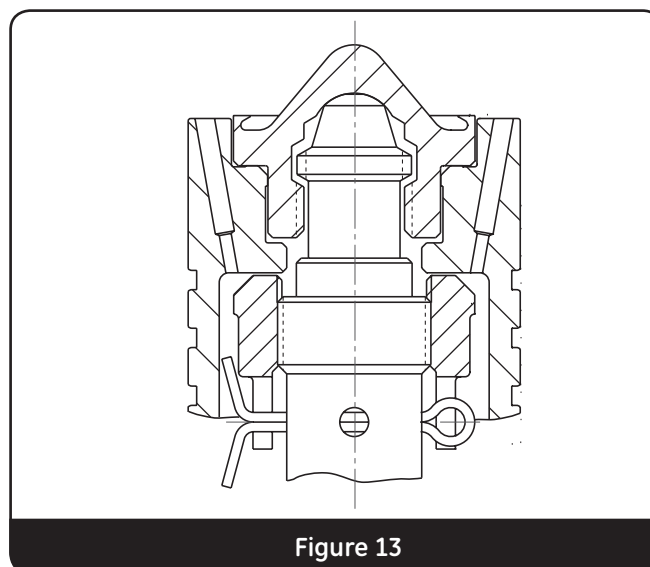

Figure 13
- Place the disc holder on the spindle, allowing it to rest on the face of the disc collar as previously shown in Figure 7 on Section XI.B. Then assemble the disc holder and new disc. The disc should be free enough to rock on the spindle tip. If there is no freedom, lower the disc collar until the disc is free to rock slightly initially, approximately .001 to .002" (0.25 to .05 mm) rock. The disc collar must then be lowered two additional notches from this initial position and secured with a stainless steel cotter pin. (See Figure 13.)